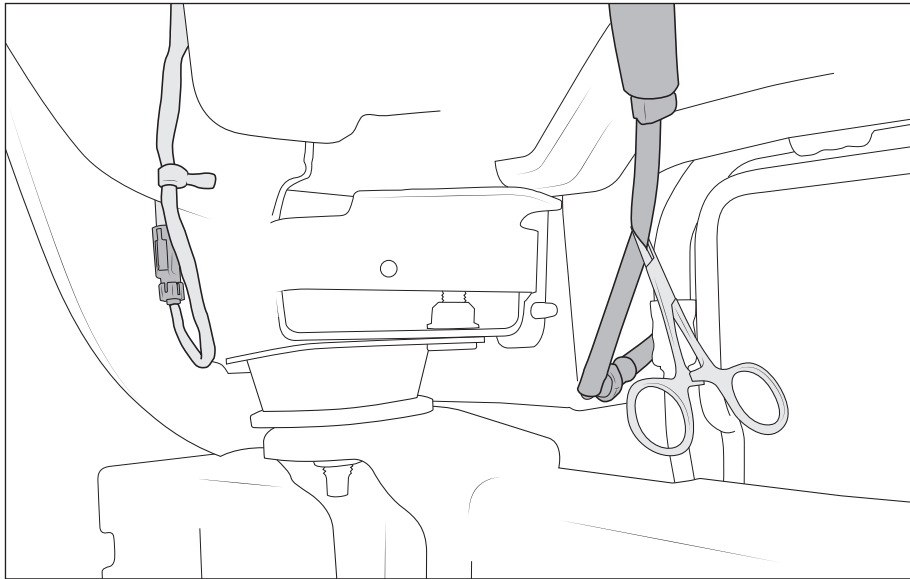

Figure 1
- A. Pull the front of the driver side wheel liner up and locate the wiring harness and rubber hose along the frame rail by the forward body mount. Disconnect the wiring harness and rubber hose quick connect. We recommend clamping off the rubber hose upstream of the connector, otherwise washer fluid will run out the exposed end once disconnected. Unclip the wiring harness from the retainer bracket and cut off the Christmas-tree wire tie (fig. 1).